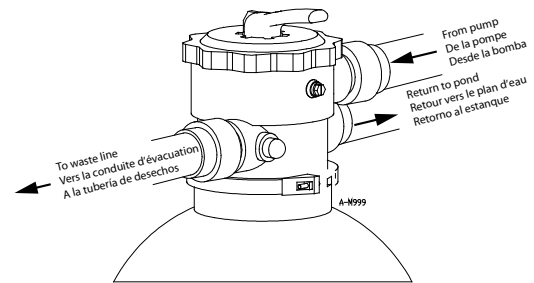

Figure 4
4. Glue the waste line from the filter to the slip-fitted side of the union leading to the valve port marked WASTE (Figure 4). **NOTE:** Do not reduce the size of the waste line.